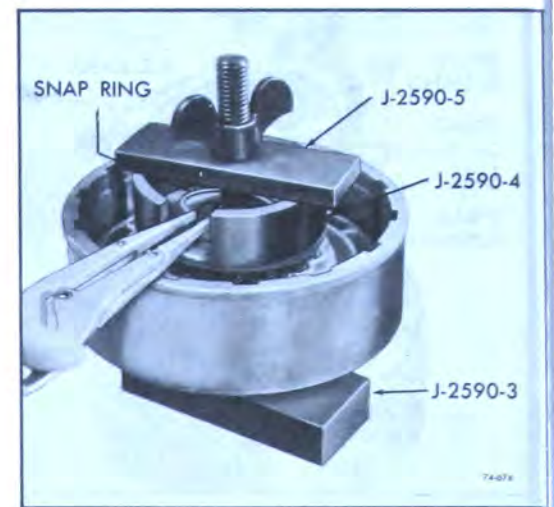

Figure 74-688
7. Using Tool J-2590, install snap ring. See Figure 74-688.